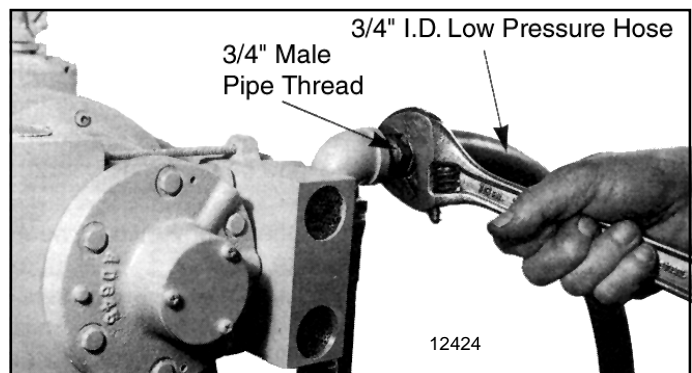

Figure 2-1. Connecting Air Hose to Hoist
- a. Connect hoist to nearest filtered and lubricated air source using 3/4" I.D. air hose (see Figure 2-1). Avoid use of hose assemblies of smaller diameters that will cause air flow restrictions and reduce hoist performance.